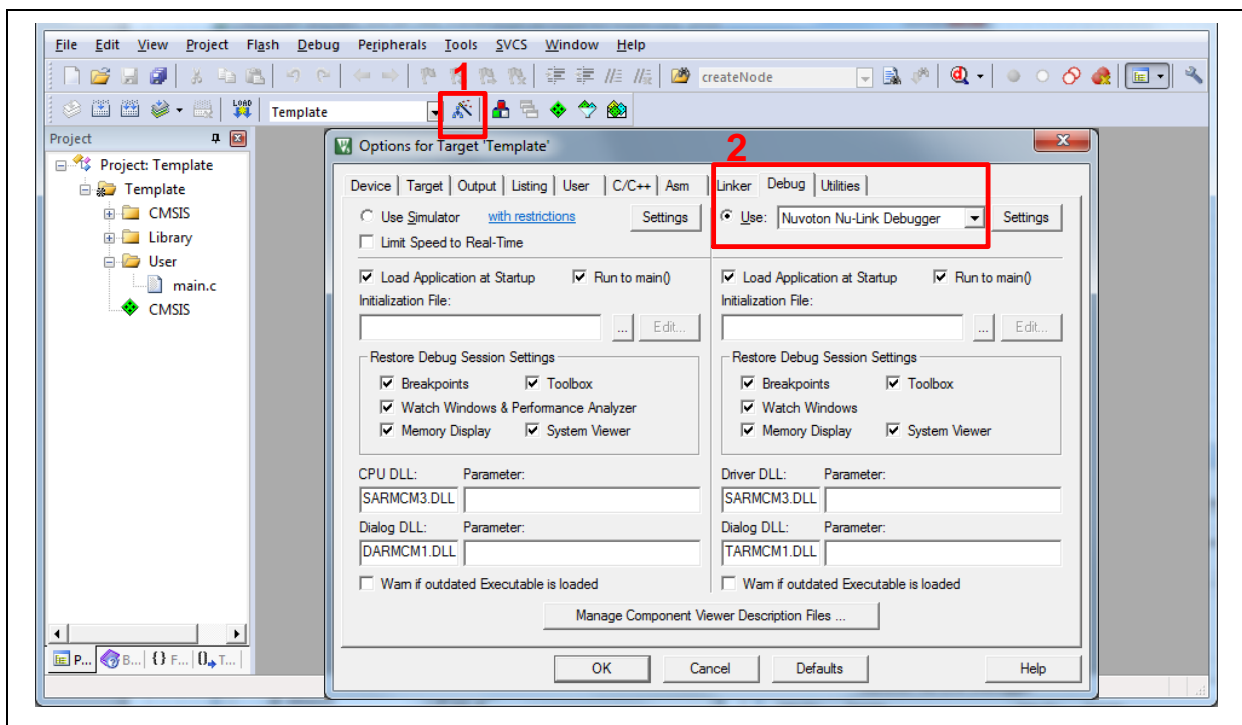
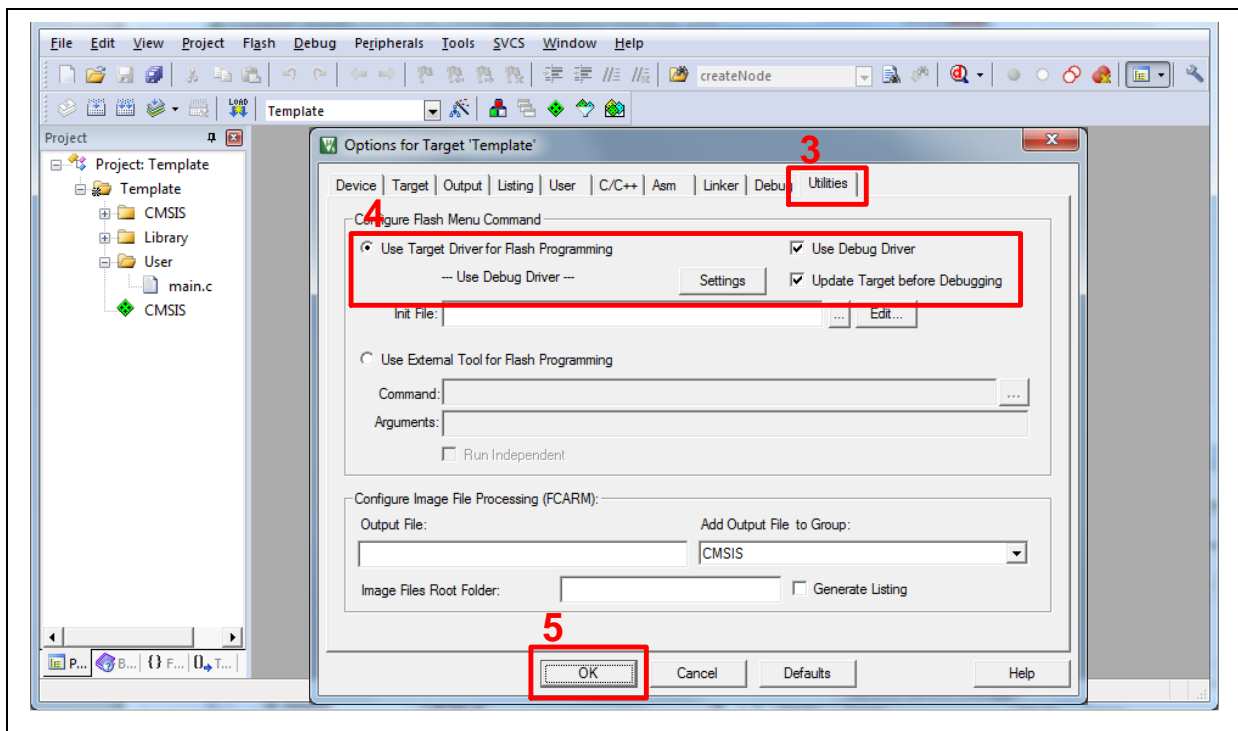

Figure 3-10 Debugger Setting in Options Window
Figure 3-11 Programming Setting in Options Window
2. Make sure the debugger is “Nuvoton Nu-Link Debugger” as shown in Figure 3-10 and Figure 3-11.
Note: If the dropdown menu in Figure 3-10 does not contain “Nuvoton Nu-Link Debugger” item, please rework section 3.2.